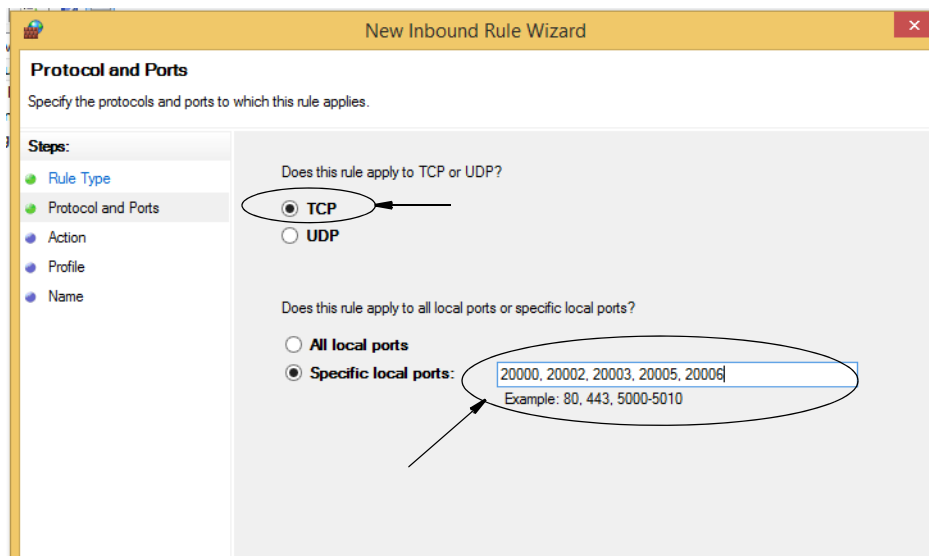

FIG. 42
- Follow the new rule wizard. For Rule Type, select Port and click on the Next button. Then select TCP and specify the following ports: 20000, 20002, 20003, 20005, 20006 (FIG. 42).